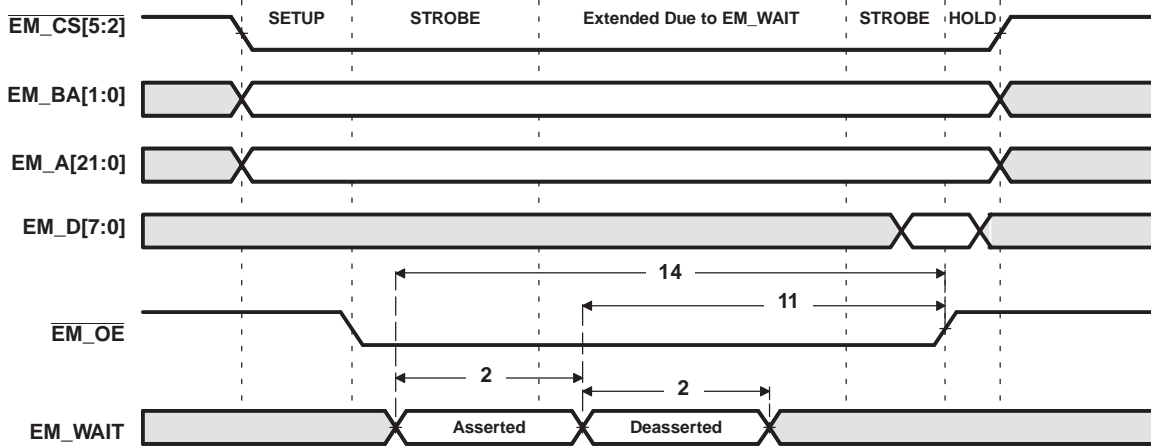
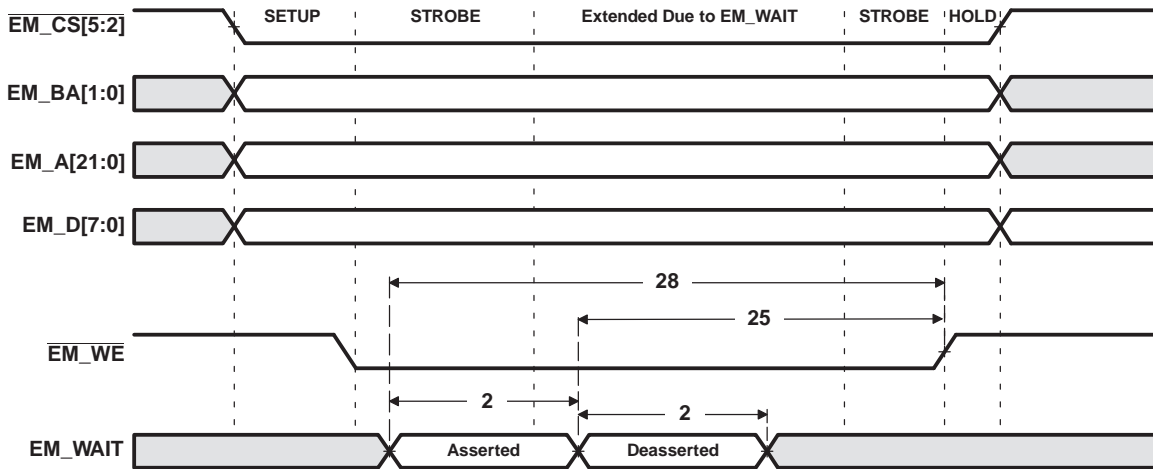

Figure 6-16. $\overline{\text{EM_WAIT}}$ Read Timing Requirements
Figure 6-17. EM_WAIT Write Timing Requirements
(1) E = SYSCLK3 period in ns for EMIFA. For example, when running the DSP CPU at 600 MHz, use E = 10 ns.
(2) Setup before end of STROBE phase (if no extended wait states are inserted) by which EM_WAIT must be asserted to add extended wait states. Figure 6-16 and Figure 6-17 describe EMIF transactions that include extended wait states inserted during the STROBE phase. However, cycles inserted as part of this extended wait period should not be counted; the 4E requirement is to the start of where the HOLD phase would begin if there were no extended wait cycles.